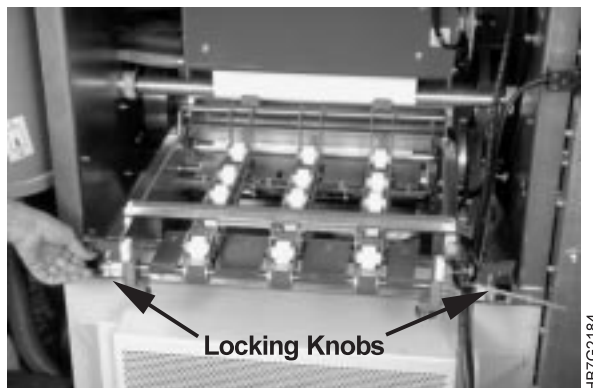

Figure 276. Cutter Assembly Locking Knobs
- b If you do see a jam, remove the two black cutter assembly locking knobs, as shown in Figure 276, and pull the cutter assembly toward you and away from the torque roll.